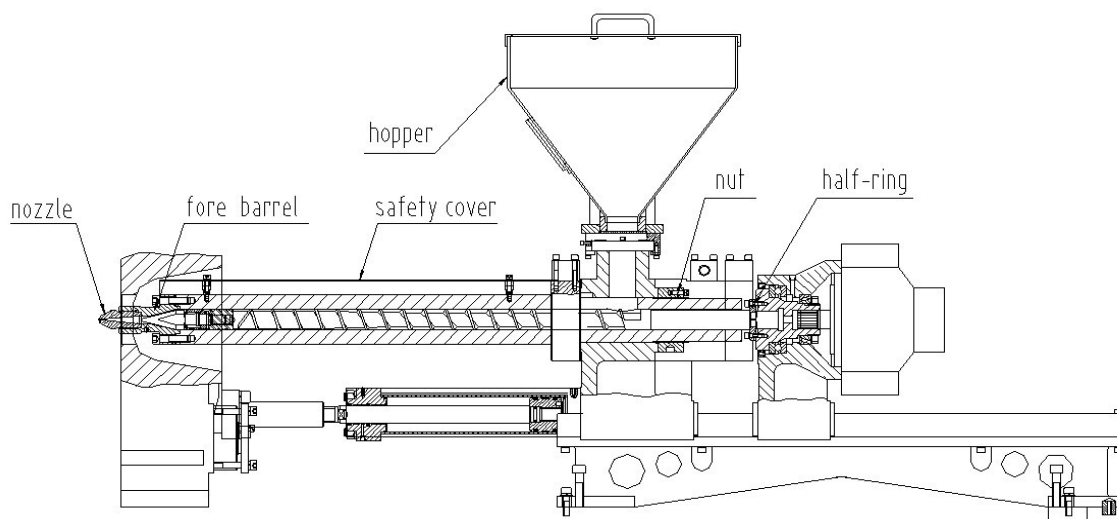

Fig 4-6
The mechanical structure of the injection unit is as Fig.4-6.
- 1) Remove all the heater bands on the barrel see Fig.4-6;